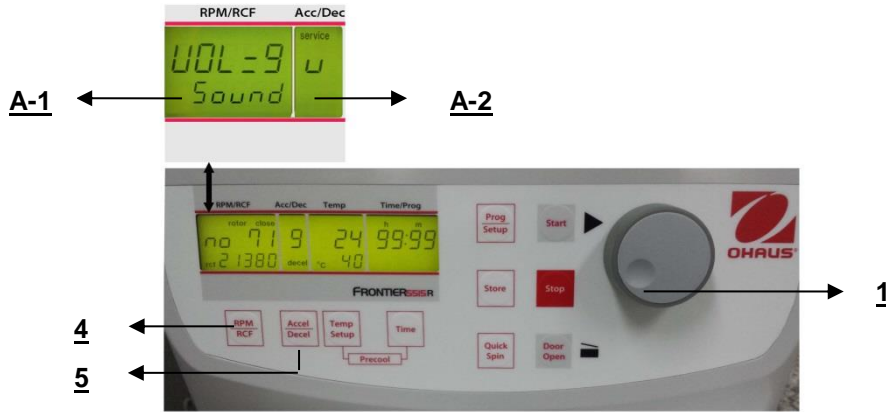

Figure. 34
Proceed as described under point 4.1.2 to enter this program mode and then press the key "Accel/Decel" (5). In the display "Acc/Dec" (A-2) the word "Service" flashes. Now select the letter "U" with the adjusting knob (1). As a result, in the display "RPM | RCF" (A-1) the words "Vol=0- 9/Sound" appear. After pressing the key "RPM | RCF" (4), you can adjust the desired volume between 0 (low) and 9 (loud) with the adjusting knob (1) (See figure 34). After you have stored the settings (see 4.1.2) you can change back to the normal program mode again by switching off the centrifuge for a short period.